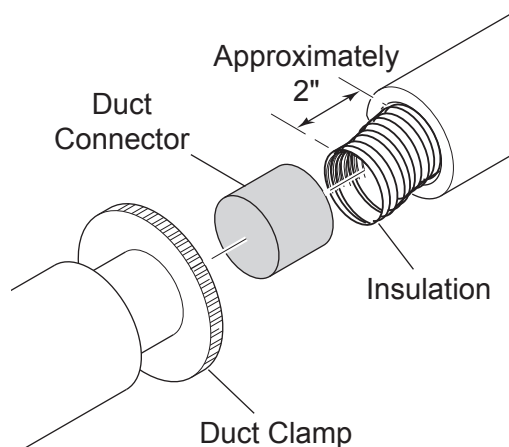

Figure 23 - Installing Duct Connector 403
7. If the duct is the insulated type, push the insulation back from one end of the duct approximately 2". See Figure 23.